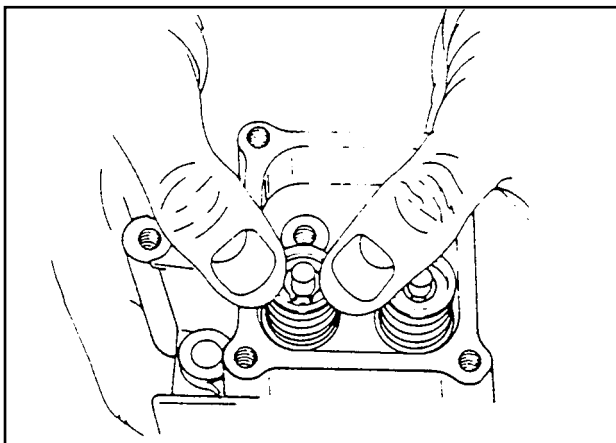

Figure 5. Removal of Valve Spring
5. See Figure 5, next page. Hold the valve with your fingers while compressing the spring with your thumb, then proceed as follows: